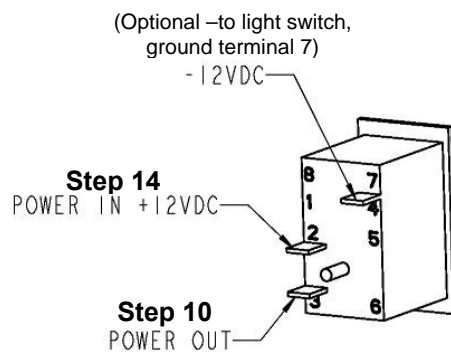

Figure 6
10. Route **brown** wire of harness through switch knockout and connect to rocker switch terminal 3. Refer to labels on harness (Figure 6) for correct wire connections.